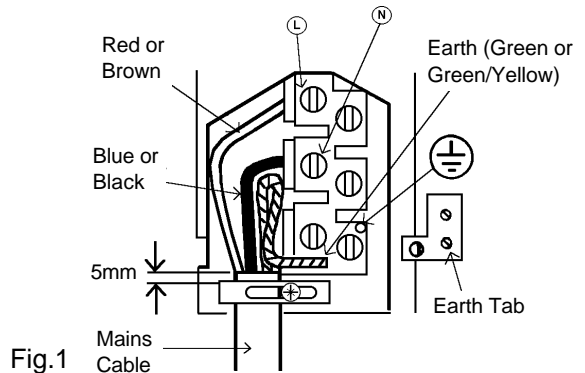

Fig.1
- Do not remove the screws from the earth tab extending from the oven mains terminal block (Fig.1).